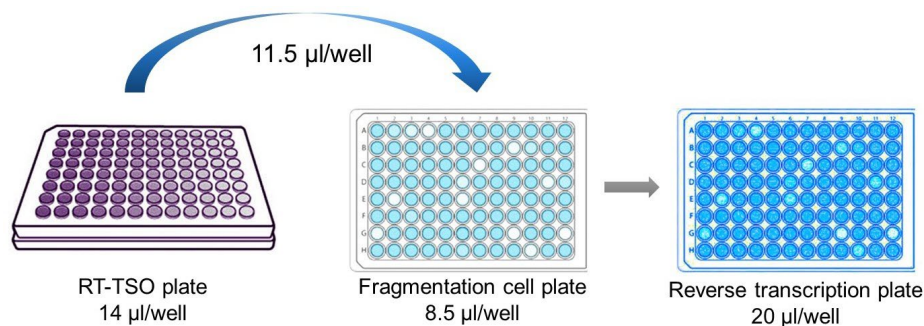

Figure 9. Creating the final plate used in the reverse transcription reaction.
- Transfer 11.5 µl RT mix from the RT-TSO plate (from Step 8) into the fragmented cell plate (from Step 3) as shown in Figure 9 to create the plate that will be used in the RT reaction. Pipette up and down twice to mix well.